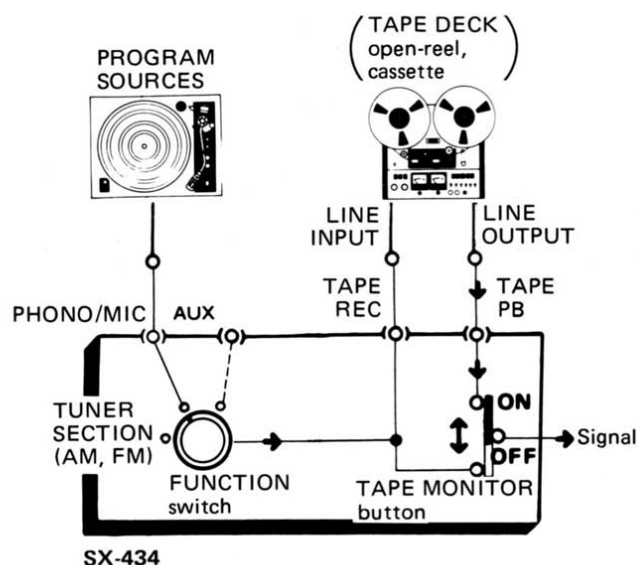

Fig. 11
1. As shown in Fig. 11, set the TAPE MONITOR button to ON (depressed).
As shown in Fig. 11, the Receiver TAPE REC jacks carry a certain, fixed level output from the source selected by the FUNCTION switch, which, once the tape deck is connected to the appropriate jacks, enables the selected source to be recorded. The operation is as follows:
If the tape deck is a three-head type or equipped with monitor circuits, a recording in progress can be monitored by setting the TAPE MONITOR button on the Receiver to ON (Fig. 11).